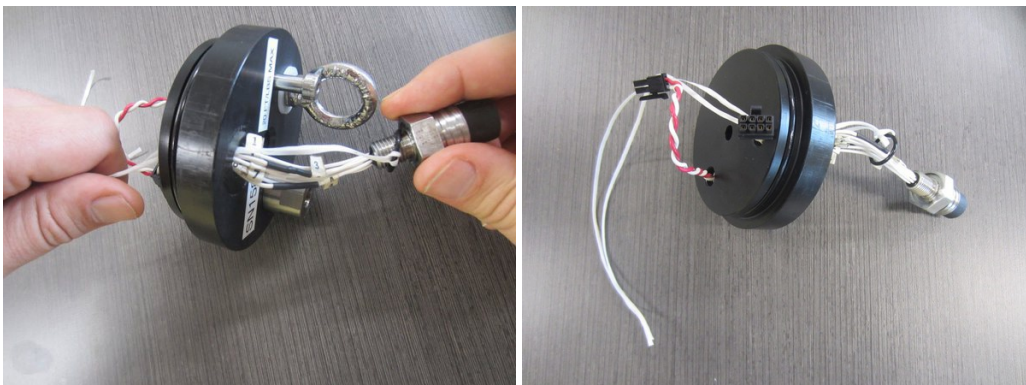

Figure 33: Removal of an O-ring from an MCBH connector (a MicroCTD is pictured).
- **Bulkhead Connector(s):** To remove the connector O-rings, thread string around the O-ring and pass both ends of the string through the threaded hole (Figure 33). Gently pull on the string to pass the O-ring through the hole and around the wiring harness. Reverse these steps to replace this O-ring.